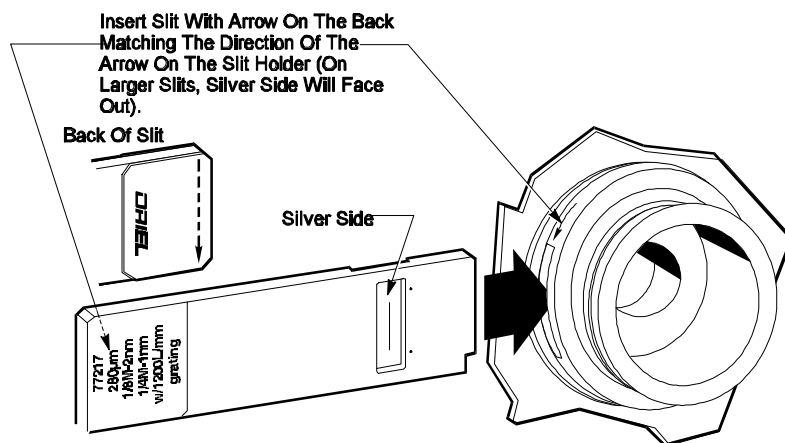

Figure 3 Insertion of Fixed Slits
- If the slit entrance is located on the left side of the slit holder, then the slit should be inserted with the notch located in the lower right corner (this will keep the reflective side facing out). Figure 3 illustrates the correct slit insertion from the left side of the slit holder .